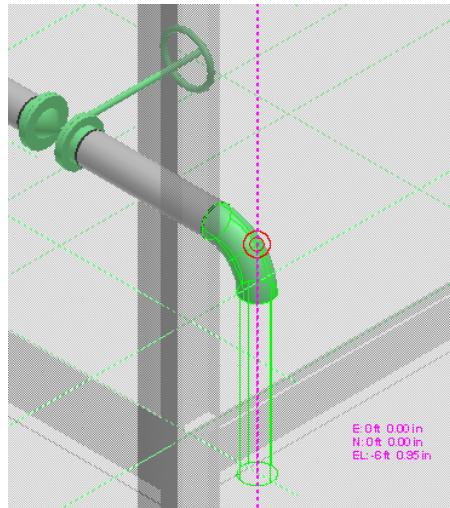

Figure 3.57: Pipe Straight Feature
- While in the **Insert Component** command, activate the **Route Pipe** command to place a **Pipe Straight Feature** at the current active route location, as shown in Figure 3.57.